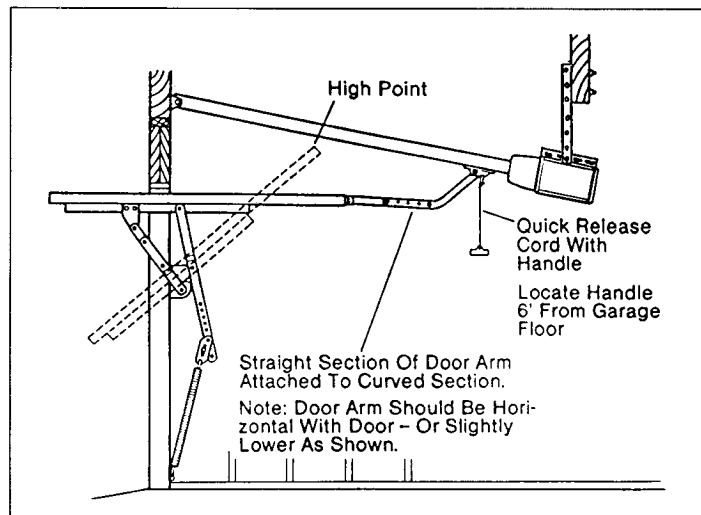

Figure 32
Step 70: Hold the straight door arm up to the door bracket already mounted and align the proper holes (see Figure 32). Slide the flat washer and wave washer onto the dual hole clevis pin. Insert the clevis pin into the aligned holes and slide hitch pin clip through outside hole of clevis pin.
Step 71: Attach the curved section of the door arm to the trolley bottom as shown in Figure 32. To attach, remove the hitch pin clip from the clevis pin and remove the clevis pin from the trolley bottom. Next, insert door arm section into trolley bottom and place clevis pin through the trolley bottom and door arm and lock in place with hitch pin.
Step 72: Connect the two free ends of the door arms by rotating the straight section upward to the rear vertical (toward the curved door-arm section) so that two holes in each section can be matched (see Figure 32). Connect the two parts of the door arm using the bolts and keps nuts supplied.
Step 73: Attach pull cord to quick-release lever on trolley bottom as shown in Figure 32. Note that the red handle should be 6' above garage floor.